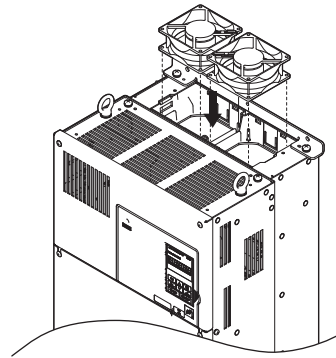

Figure 7.15 Installing the Cooling Fan: 4A0075, 4A0091
- Install the replacement fan into the drive. Align the pins as shown in Figure 7.15.
3. Angle the fan cover as shown in **Figure 7.15** and insert the connector tabs into the corresponding holes on the drive.